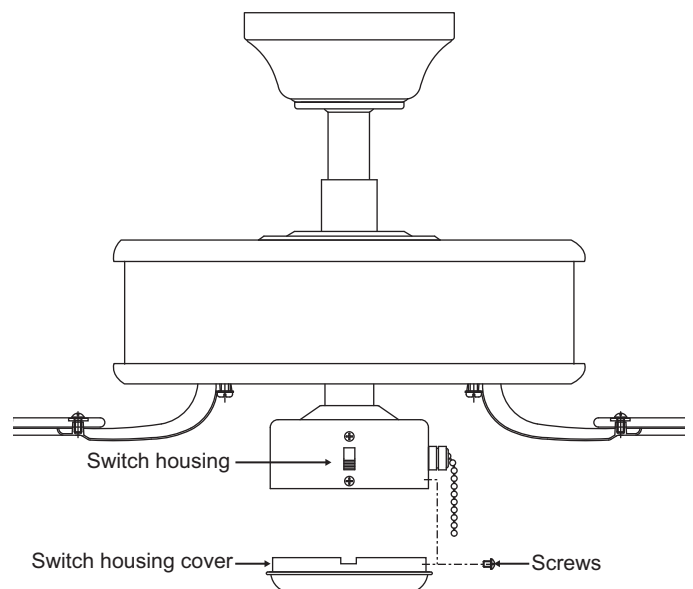

Figure 20
2. Carefully push all wires back into the switch housing, then install the switch housing cover onto the switch housing with 3 screws provided. Be sure to tighten all screws. (Fig. 20)